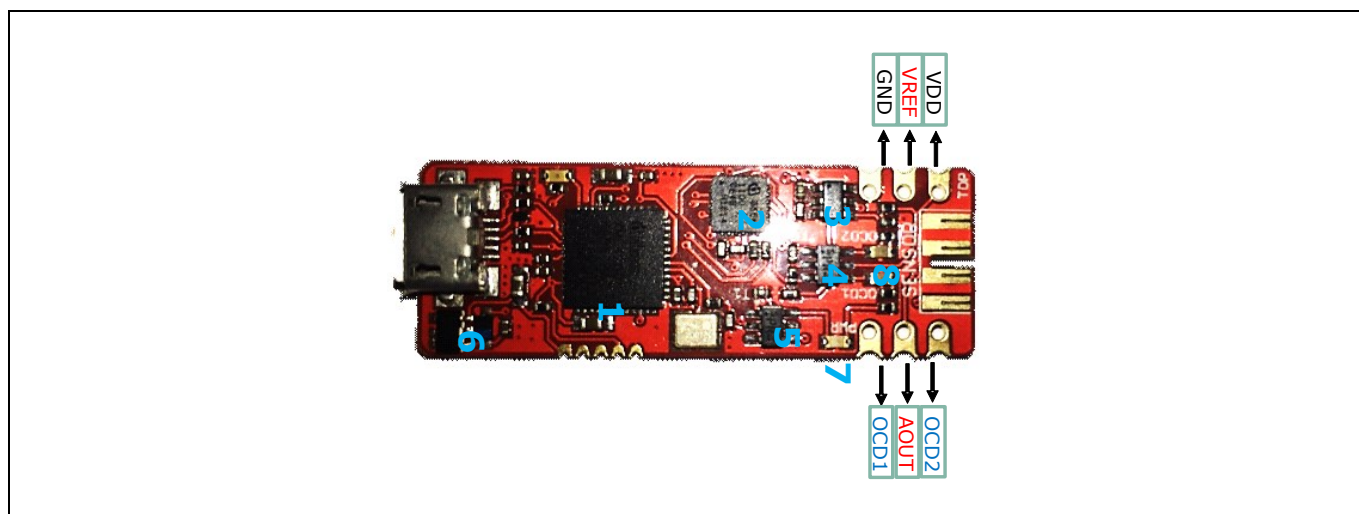

Figure 8 MCU Board Description
- One XMC4200 microcontroller running a SEGGER Jlink license for debugging (see ‘1’ in Figure 8)
- One XMC1100 microcontroller used as target MCU (see ‘2’ in Figure 8)
- MAX4624EUT / STG719STR Analog MUX (see ‘3’ in Figure 8) is used to select an external or internal sensor voltage reference.
Also, it contains two BSL308PE dual package PMOS transistors (see ‘4, 5’ in Figure 8) used for:
- Switching ON/OFF the sensor supply LED (see ‘7’ in Figure 8)
- Switching ON/OFF the overcurrent indicator LEDs (see ‘8’ in Figure 8).